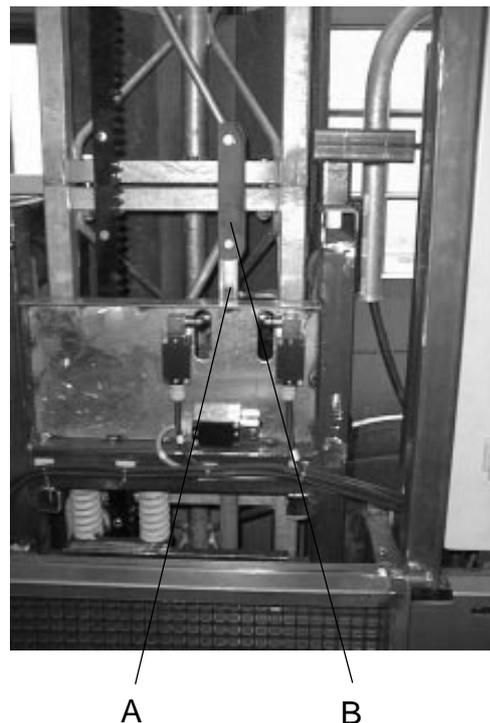

Fig.6-16 Landing barrier
2. Mount the rail (fig.6-16, A) with striker plate (fig.6-16, B) for the landing stop in the mast, at the required height.